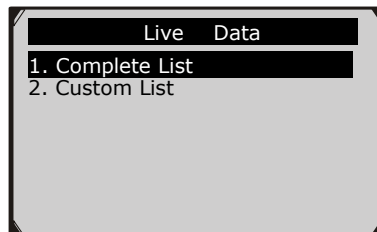

Figure 6.11
- 1) To view complete set of data, use **UP/DOWN** scroll button to select **Complete List** from **Live Data** menu and press the **OK** button (Figure 6.11).
- 1) To view customized PID data, use the **UP/DOWN** scroll button to select **Custom List** from **Live Data** menu and press the **OK** button (Figure 6.11).